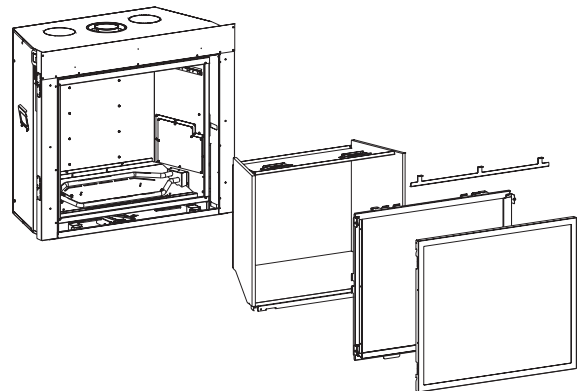

Figure 6
1. Remove the following items (**Figure 6**).
9. Replace Glass Frame, Screen Barrier, and liners removed in Step 1 (Figure 6).